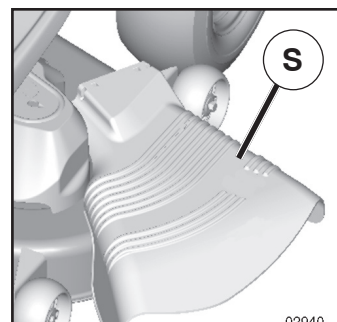

Fig. 23
CAUTION: Do not operate the mower without either the entire grass catcher, on mowers so equipped, or the deflector shield (S) in place (See Fig. 23).